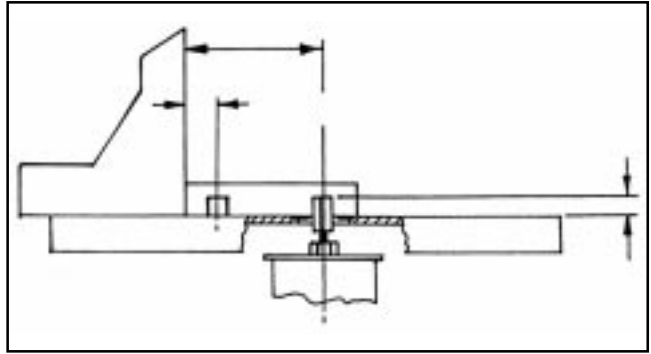

fig. W.1
2. Position the fence behind the router bit for the desired cutting depth (the distance of cut from the edge of the workpiece, as shown in fig. W.1).